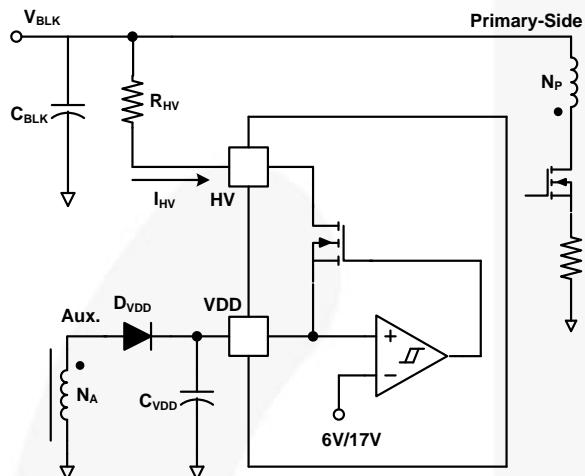
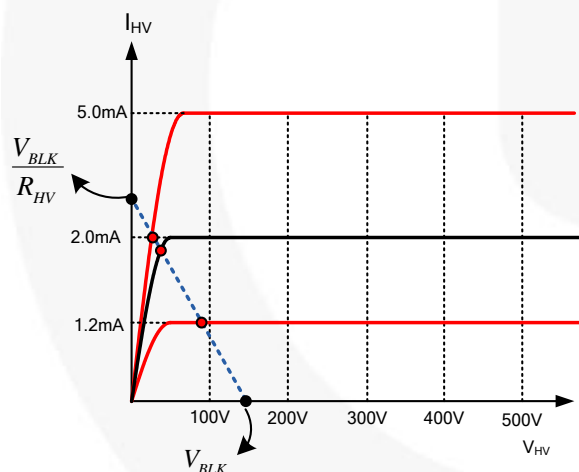

Figure 31. HV Startup Circuit
Figure 32. V-I Characteristic of HV Pin
Figure 31 shows the high-voltage (HV) startup circuit for FAN501 applications. The JFET is used to internally implement the high-voltage current source (see Figure 32 for characteristics). Technically, the HV pin can be directly connected to voltage ( $V_{BLK}$ ) on an input bulk capacitor. To improve reliability and surge immunity, however, it is typical to use a  $\sim 100$  k $\Omega$  resistor between the HV pin and bulk capacitor voltage. The actual HV current with a given bulk capacitor voltage and startup resistor is determined by the intersection of V-I characteristics line and load line, as shown in Figure 32.